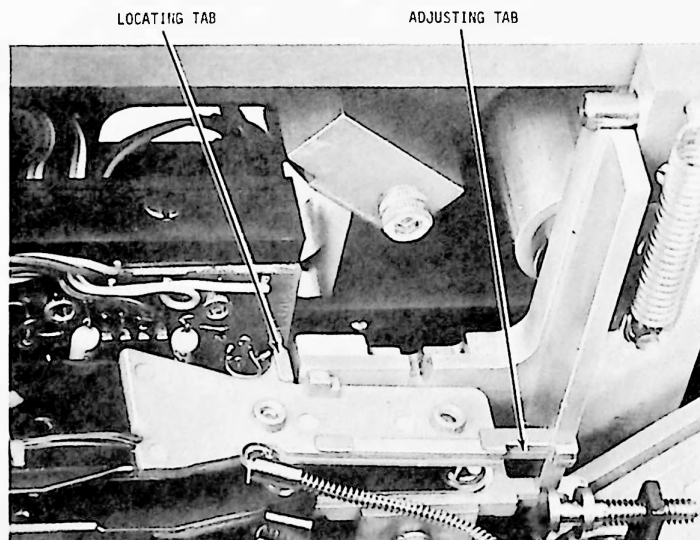

Figure 3-24. Head Removal and Replacement
11. Hold the carriage assembly against rear crash-stop and slide the head-arm assembly slightly forward (toward disc spindle). After the locating tab of the head-arm stiffener clears the carriage, slide head-arm assembly out toward back of drive (figure 3-24).
1. Insert adjusting tab end of the head-arm into the carriage slot (figure 3-24).
3. Applying a slight amount of pressure at the center of the head-arm (in direction perpendicular to head motion) slide the head-arm assembly towards back of drive. Ensure that the head-arm locating tab is within the carriage slot (figure 3-24).
2. Position the slide spring of the head-arm on top of the head load cam (figure 3-24).
3. Applying a slight amount of pressure at the center of the head-arm (in the direction perpendicular to head motion) slide the head-arm assembly towards back of drive. Ensure that the head-arm locating tab is within the carriage slot (figure 3-24).